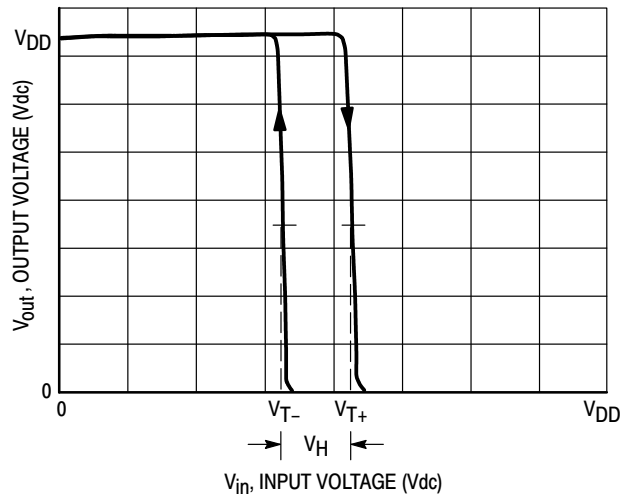

Figure 3. Typical Transfer Characteristics
- Can be Cascaded – See Fig. 3